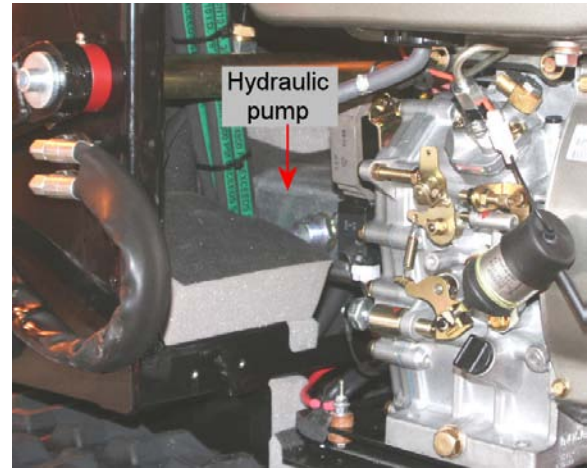

Fig 5-6 Hydraulic pump location
12. Disconnect the three hydraulic hoses from the pump at the front of the engine (Fig 5-6). Plug the hoses and take care to avoid oil spillage as this can be an environmental hazard.